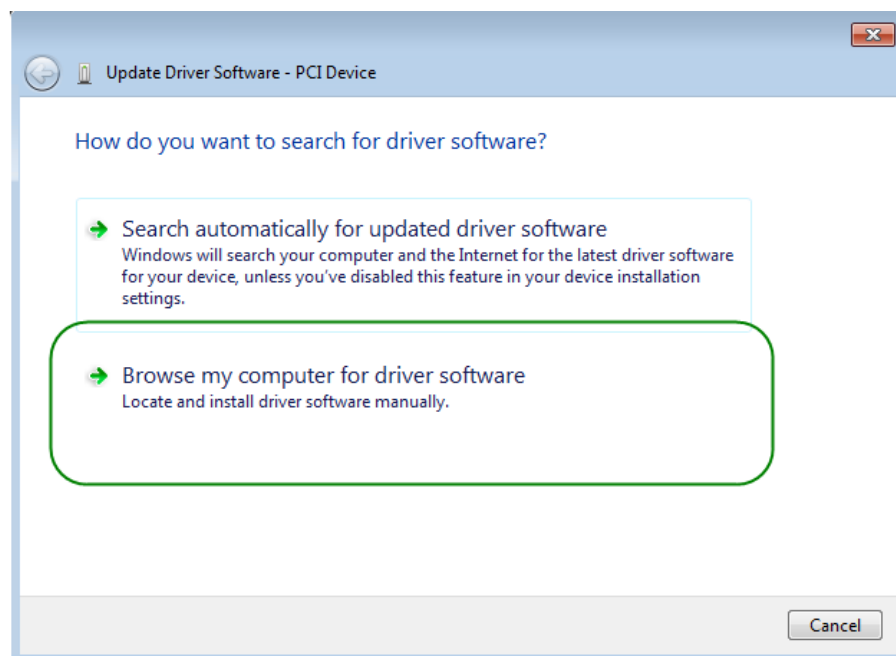

Figure 6-4 Dialog of Browse my computer for the driver software
6. In the **How do you want to search for the driver software** dialog, click **Browse my computer for driver software** item, as shown in **Figure 6-4**.